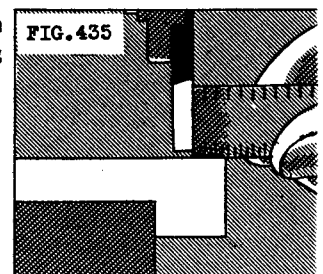

FIG. 435
2. Move the tool down with the down-feed crank until the tool nearly touches the work (Fig. 435).
3. Place a scale against the side of the tool and move the table horizontally until the edge of the work coincides with the graduation on the scale (Fig. 435).